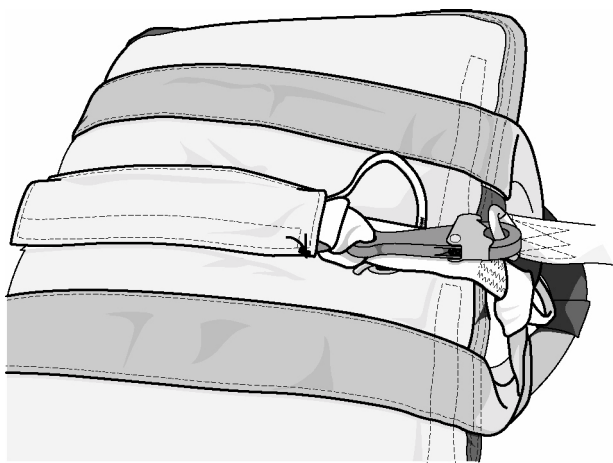

Figure 5. Attaching Snap Hook to Retaining Ring
j. Lift cover on oxygen valve, verify toggle is fully seated and close cover. (QA)
c. Position the survival kit in the lower compartment of the harness/container with its locking loop facing up, and the survival kit handles toward the oxygen bottle. Ensure red retainer hook is routed over the top of the carry handles. Attach snap hook to survival kit retaining lanyard ring (Figure 5).